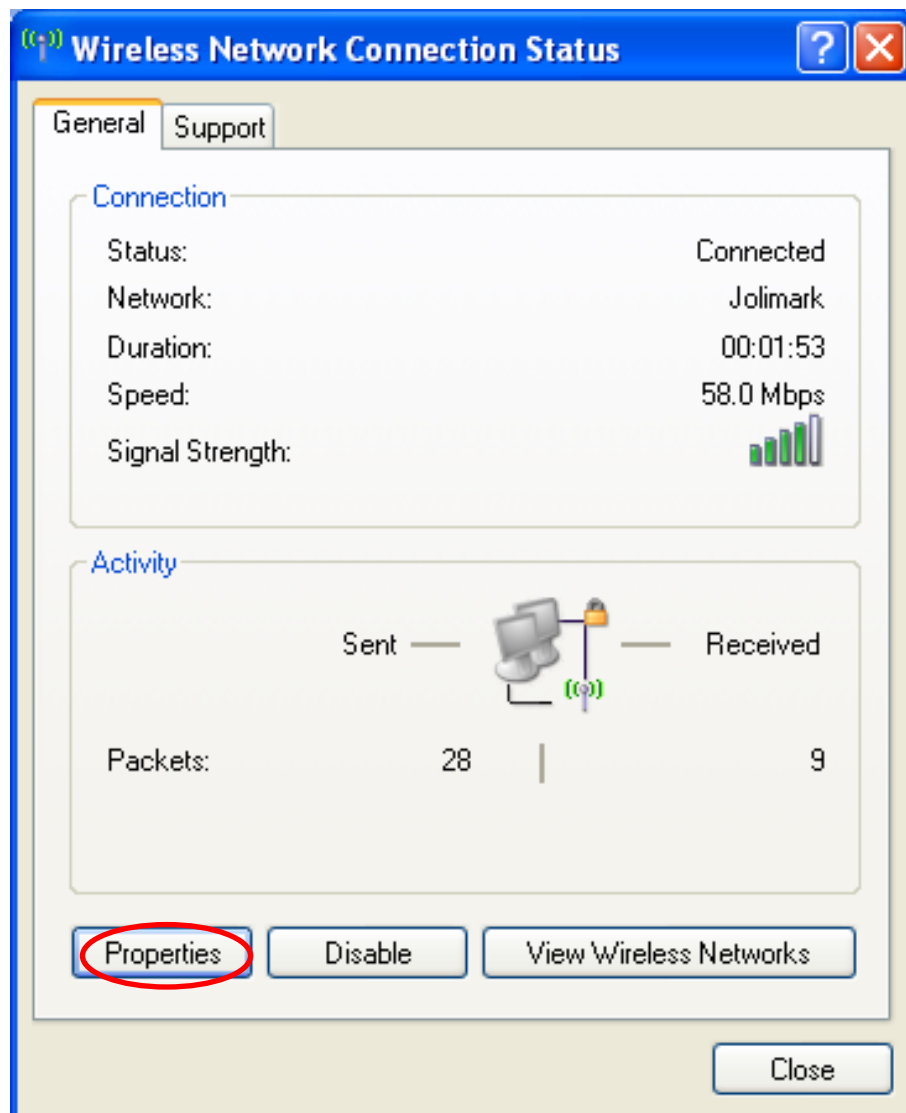

Figure 9
- ② The dialog box “Wireless Network Connection Status” pops up, then click “Properties” (as shown in Figure 9).